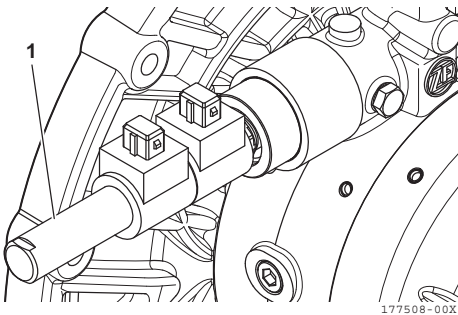

Figure 7
2. Unscrew and remove the cover (1, **Figure 7**).